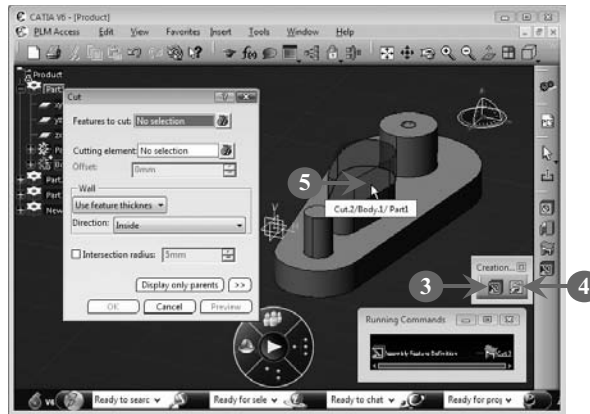

FIGURE 4.49
The **Cut** dialog box opens (**Figure 4.49**).
3. Click the **Launch Assembly Feature Definition** button on the **Creation** toolbar to prevent the **Assembly Feature Definition** dialog box from appearing at the end of the split operation (Figure 4.49).
4. Click the **Specification in No Show** button on the **Creation** toolbar to show the result of the split operation (Figure 4.49).
5. Select the assembly feature that you want to cut, as shown in Figure 4.49: